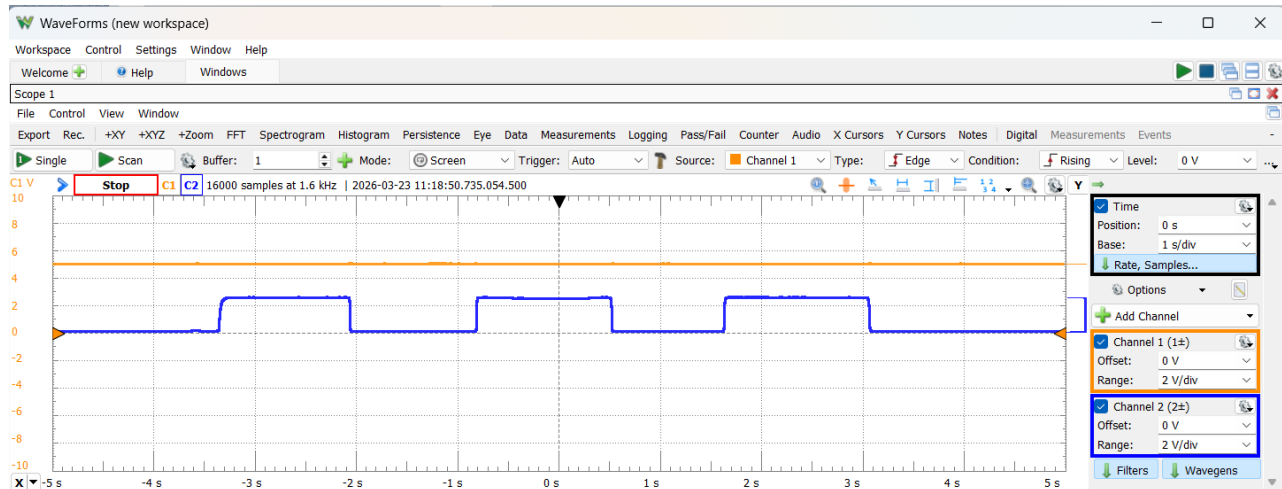

Figure 5. Oscilloscope Measurement of Vctrl (Ch.1) and LED Output (Ch.2) in WaveForms
- **Channel 1:** gradual increase/decrease in Vctrl (**Figure 5**)